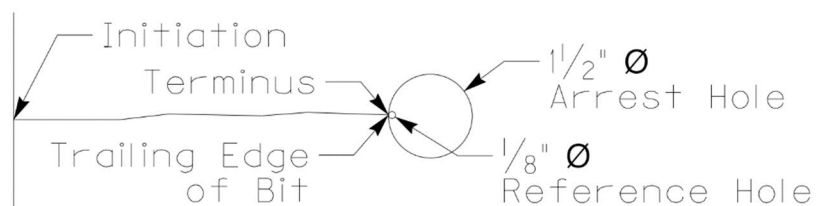

Figure 1: Reference Hole and Arrest Hole Positioning
- C. Drilling Arrest Hole.** Using a 1 1/2" diameter annular/coring bit, position the bit such that the trailing edge of the bit removes the crack terminus (see Figure 1). Drill a 1 1/2" diameter hole fully through the cracked material, taking care not to damage any other structural components. Consult with the Engineer if the required diameter is not achievable.